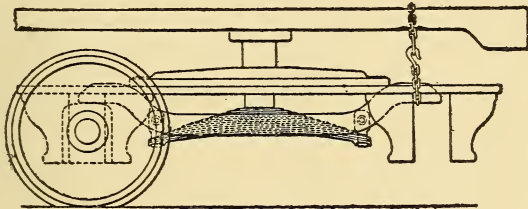

FIG. 39.—METHOD OF CHAINING FOUR-WHEELED TRUCK FRAME WITH A BROKEN FRONT AXLE.
*A.* The end of the truck where the break has taken place should be jacked up and the wheels with the broken axle, the boxes and other parts likely to shake loose removed. The end of the truck so raised should then be chained securely to the frames, as shown in Fig. 39, after which the engine may be slowly run to the terminal.
A. If the axle is broken outside the box, it may be possible to raise that corner of the truck where the break has occurred and by chaining it well up cause the remaining wheel to hug the rail. In this way the engine may be run slowly and carefully without removing the broken axle. This applies only to four-wheeled trucks, as it would be hazardous to attempt to run a pony truck in this condition (see Fig. 39).